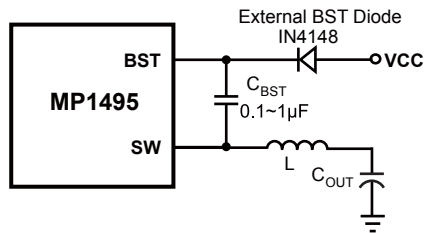

Figure 7: Optional External Bootstrap Diode for Enhanced Efficiency
Connect the BST diode from the VCC pin to the BST pin, as shown in Figure 7.
- 8) The recommended layout is based on the Figure 7 Typical Application circuit on the next page.